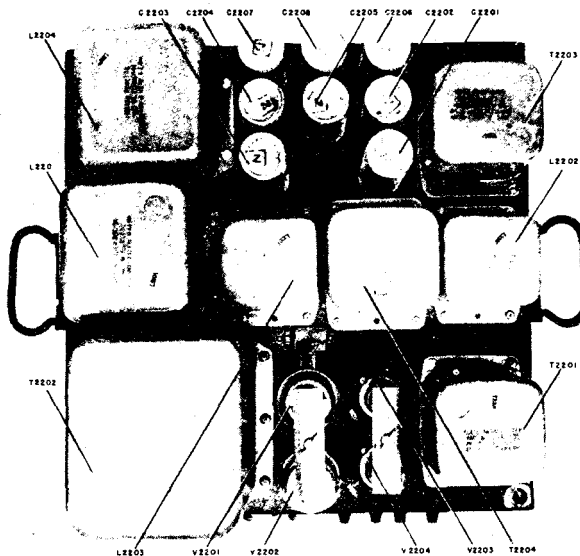

Figure 1-7 Rectifier Power Unit Type -20309. Top View
b. The Type CKP-20309 Power Unit (figure 1-7) is designed for use with either 115v 50/60 cycle or 230 volts 50/60 cycles a-c simply by changing the position of a toggle switch. This unit utilizes two full wave vacuum tube rectifier systems and a dry disc rectifier to furnish the necessary voltages for operation of the transmitter and receiver.